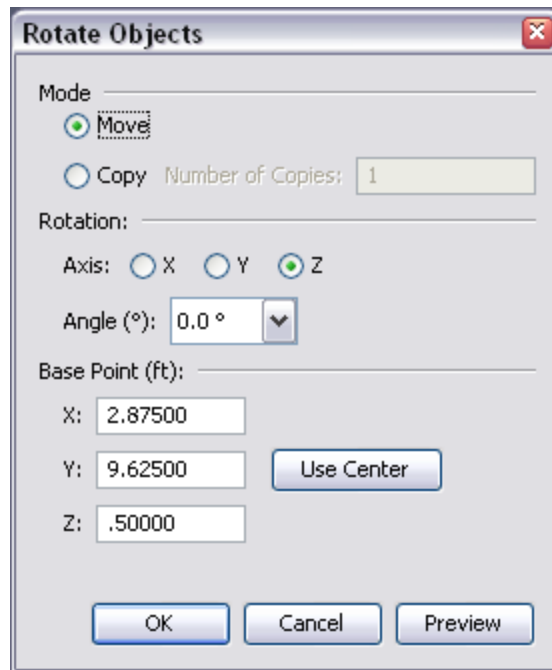

Figure 113. The rotate dialog being used to rotate an object
3. This will show the Rotate dialog as in Figure 113.